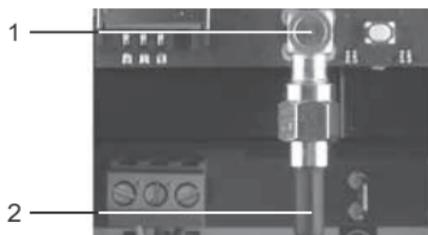

Fig. 2 SMA-M plug
Connect the antenna cable (pos. 2) to the GSM module (pos. 1) with a straight SMA-M plug. See fig. 2.